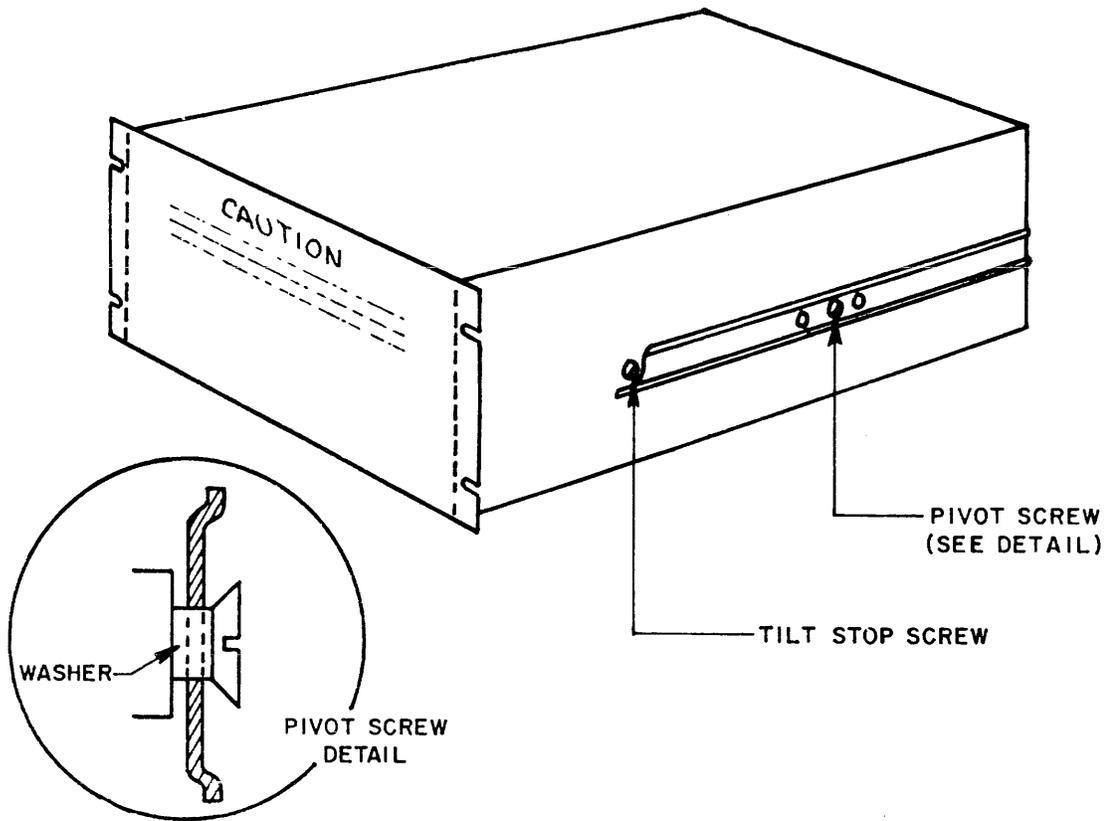

Figure 6-3. Installation of Slide Chassis Sections
- d. Install the slide chassis sections on the new power supply as shown in figure 6-3. Use a 5/16-24 pivot screw and 5/16" flat washer at the center, and a # 12-24 tilt stop screw and # 12 flat washer at the forward end of each chassis section. Ensure that the front (cutaway) end of each chassis section is below its tilt stop screw.